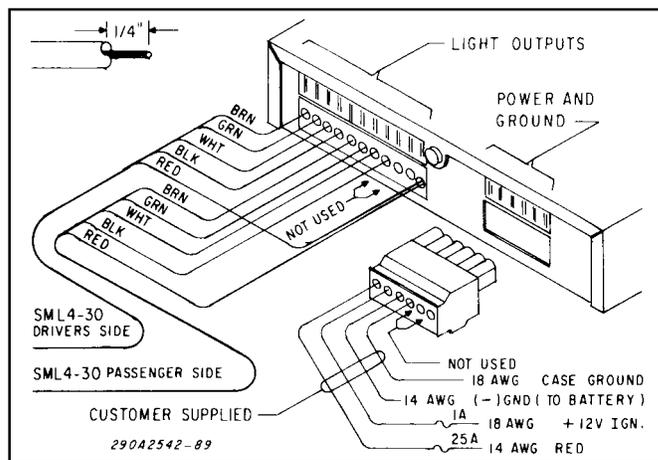

Figure 2.
The control unit is supplied with a six-position connector and a eleven-position terminal block to perform the electrical installation. User-supplied, 14-gauge red and black wires are required for the (+) BAT and (-) GND connections on the six-position connector. User-supplied, 18-gauge red and green wires are required for the (+) BAT/IGN and CASE GROUND connections on the six-position connector. Using figure 2 as a guide, complete this portion of the installation as follows:
g. Ensure that positions 5 and 6 of the six-position connector are not used (see figure 2).
c. Connect the both sets of SML4 wires to the terminal block as shown in figure 2. Positions 9 and 10 are not used. Ensure that the driver and passenger wire sets are connected to the terminal block EXACTLY as shown in figure 2.